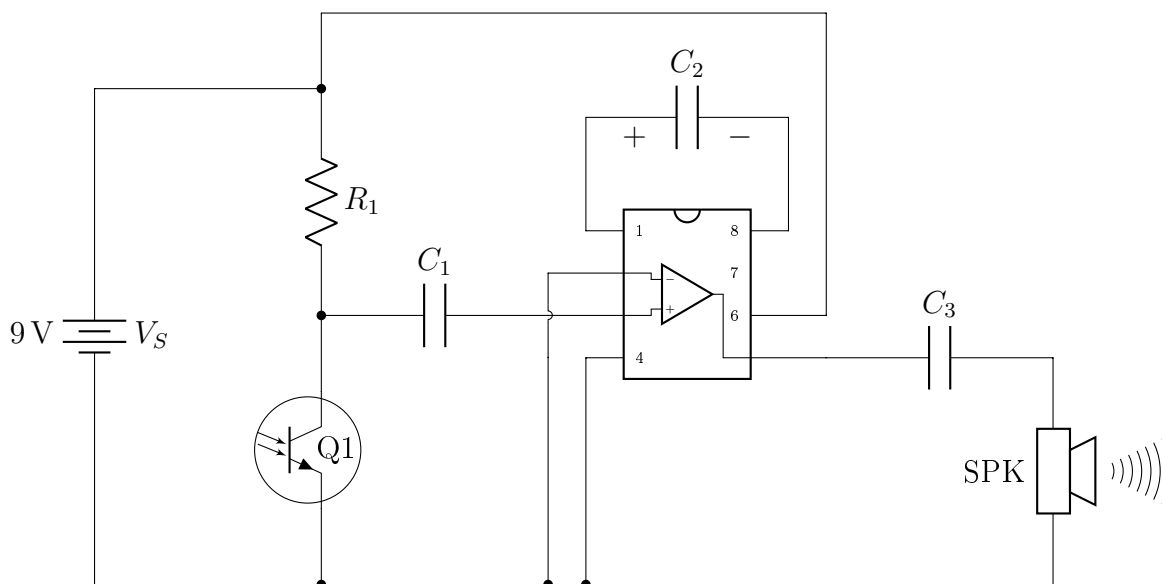

Figure 4: Music Receiver Circuit
The purpose of this exploration is to build a wireless signal transmitter using the knowledge of LEDs and Field-Effect Transistors you have gained in lab. The ultimate goal of this exploration is to build a simple electronic system that transmits music from a portable music player (e.g. MP3 player, CD player, radio), through a wireless channel using light. To do so, you will build a circuit that takes the electrical signal and changes the brightness of an LED with the sound of the music. A given receiver circuit using a phototransistor will take this light signal and convert it into sound. You lab TA will provide a receiver for testing your circuit. You can also build your own receiver using the circuit in Figure 4.
1. Build the receiver circuit outlined in Figure 4. Keep in mind that the IR LED from the transmitter you just built will need to be positioned about 1/2" from the phototransistor in this receiver circuit.